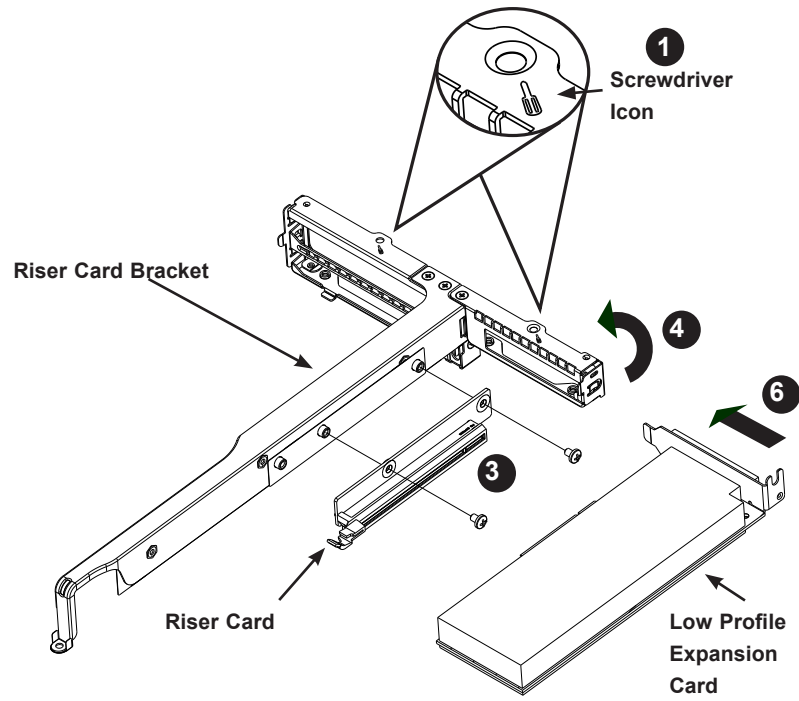

Figure 3-5. Installing the Riser and Expansion Cards to the Bracket
1. Remove the riser card bracket from the chassis by unscrewing only those screws indicated by the screwdriver icon as illustrated in Figure 3-5.